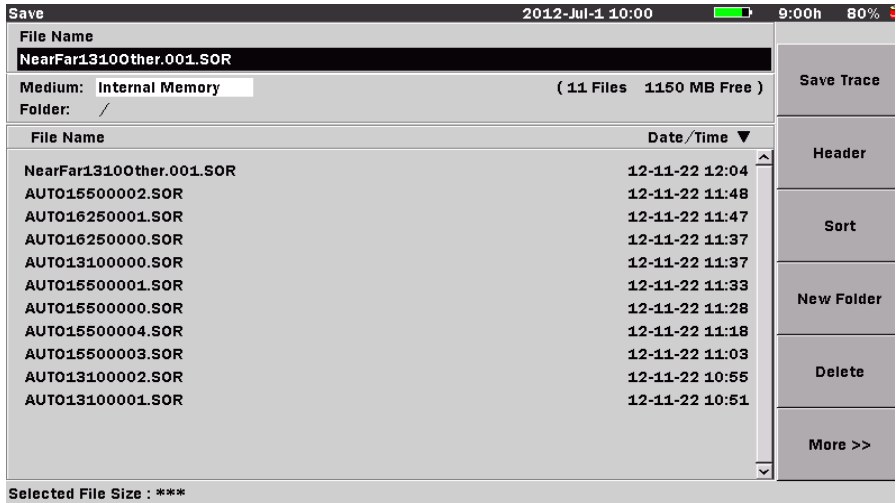

Figure 6-26: Save screen
12. If **File Save Verify** is selected on the OTDR (Construction) Setup screen (see Figure 6-24 on page 6-62) the Save screen appears (see Figure 6-26 on page 6-65). Review the file name and edit if desired, then press **Save Trace (f1)**. The Save screen closes and Construction mode advances to the next test.
Use the Save screen (see Figure 6-26 on page 6-65) to delete any data files stored in the internal memory or on a USB memory stick. You can delete a single file, multiple files or all of the files in the current directory.
1. At the completion of a Construction mode test, the Save screen appears (see Figure 6-26 on page 6-65).